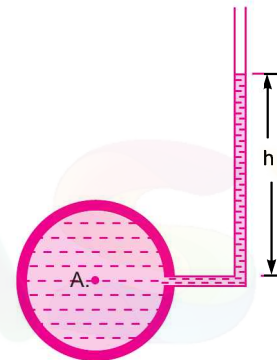

Fig. 2.8 Piezometer.
**2.6.1 Piezometer.** It is the simplest form of manometer used for measuring gauge pressures. One end of this manometer is connected to the point where pressure is to be measured and other end is open to the atmosphere as shown in Fig. 2.8. The rise of liquid gives the pressure head at that point. If at a point A, the height of liquid say water is  $h$  in piezometer tube, then pressure at A